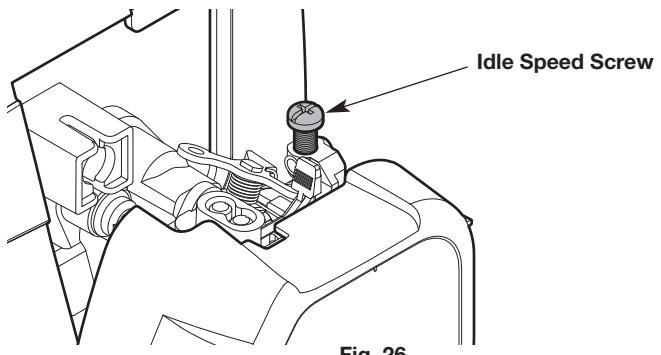

Fig. 26
- If the engine stops, increase the idle speed. Use a small Phillips screwdriver to turn the idle speed screw clockwise, $\frac{1}{8}$ of a turn at a time, until the engine idles smoothly (Fig. 26).